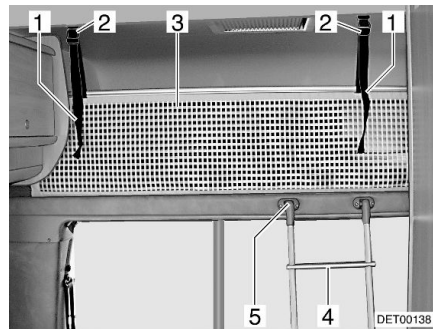

Fig. 47 Overcab bed
Always use the access ladder (Fig. 47,4) provided as standard to access the overcab bed.
- Attach the ladder with the rails to the holder (Fig. 47,5) on the alcove panel.
The safety net (Fig. 47,3) is stored as standard between the mattress and slatted frame. Only use the safety net if persons are already in the alcove.
- Fasten the retaining straps (Fig. 47,1) to the holders on the ceiling (Fig. 47,2).